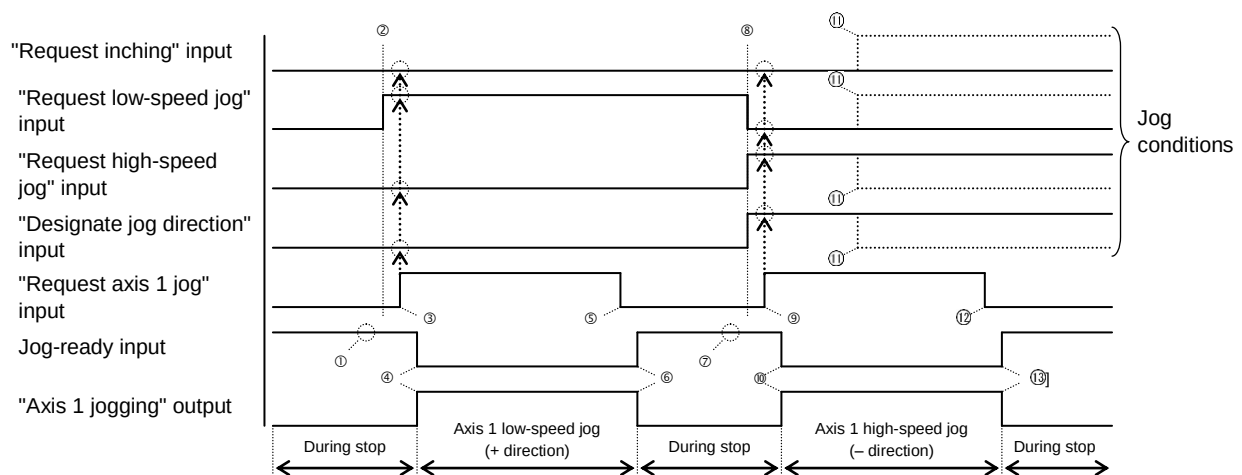

Fig. 13.2.4–1 Example of axis 1 travel
- When the jog conditions (inching request, low-speed jog request, high-speed jog request) and jog direction are specified, and the jog request is ON, the corresponding axis performs the jog operation. (Refer to Fig. 13.2.4-1.)